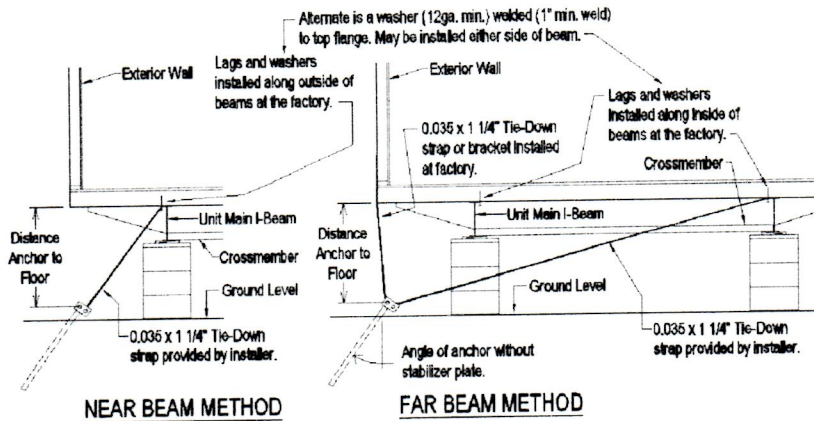

Figure 80. Lateral tie-down configurations.
1. Diagonal (frame) tie straps are installed to far I-Beam from sidewall vertical and is attached to a common anchor. (see **Figure 80**)
3. Lags and washers are factory installed along the inside of both I-Beams spaced per design manual. (see **Figure 80**)
There are two primary tie-down configurations: the near beam and the far beam methods. (Figure 80).